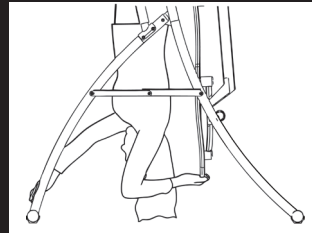

Fig. 15
- Pull both hands together (Figure 15). This will rotate the table out of the “locked” position. Slowly move your arms and elbows to your sides to complete the rotation.